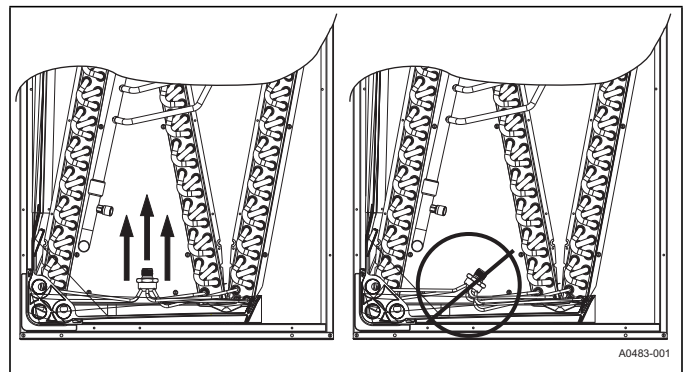

FIGURE 6: Recommended Distributor Adjustment
2. Distributor position must be adjusted to allow the preformed liquid line assembly to properly line up with the hole in the tubing access panel. Raise the distributor body approximately 2" toward the top of the coil or what would be the top of the coil if coil was in the upflow position. See Figure 6. Adjust as necessary.